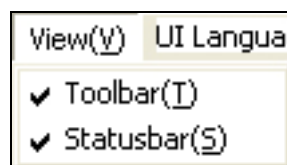

Figure 7-2 "View" Menu
(2) "View" menu, refer to Figure 7-2.